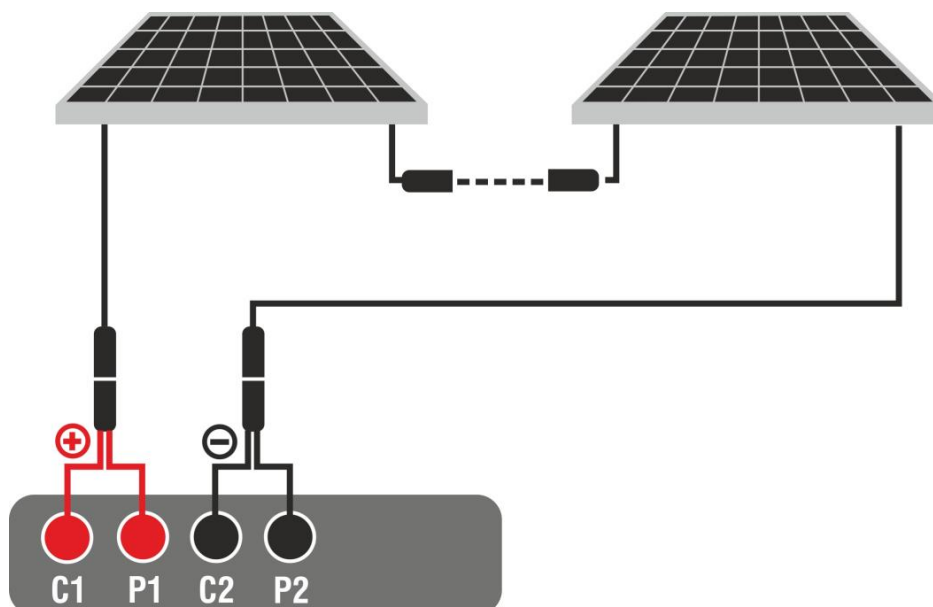

Fig. 46: Connection for IVCK tests without remote unit
3. Connect the instrument to the module/string being tested as shown in Fig. 46. In particular, connect the Negative pole of the module/string to the **P2, C2** terminals and the Positive pole from the module/string to the **P1, C1** terminals